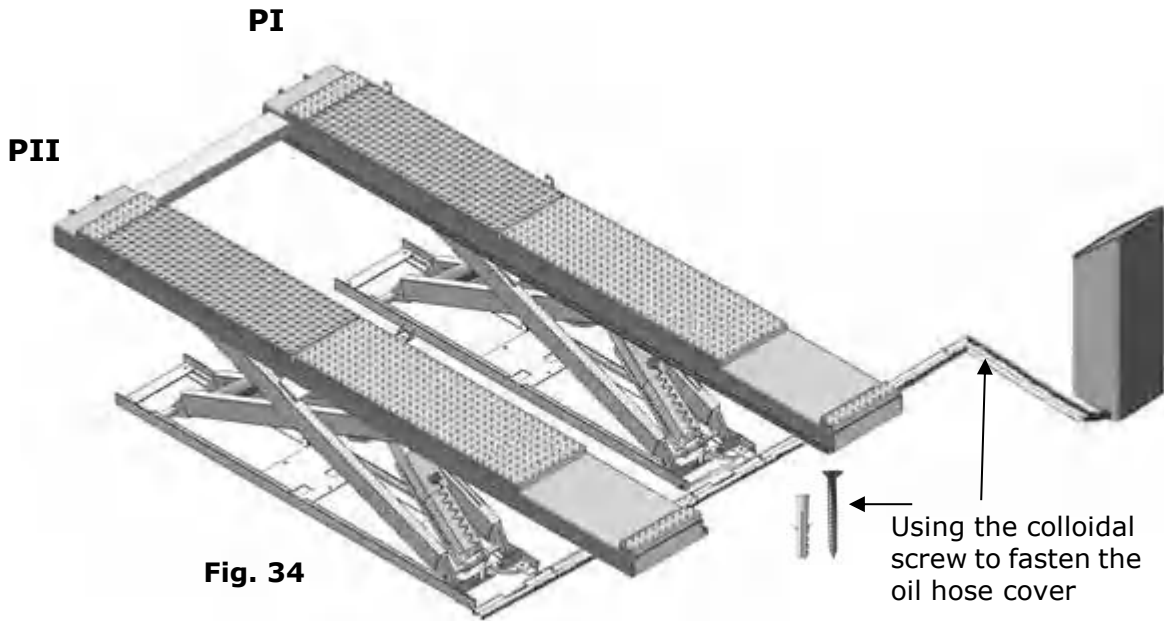

Fig. 34
1. Tidy up the oil hose and air line, cover the oil hose cover (See Fig. 34).